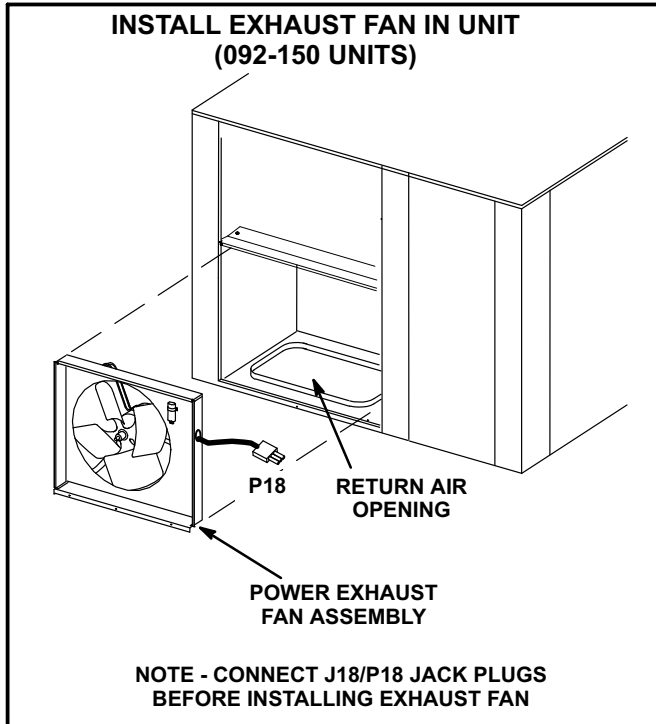
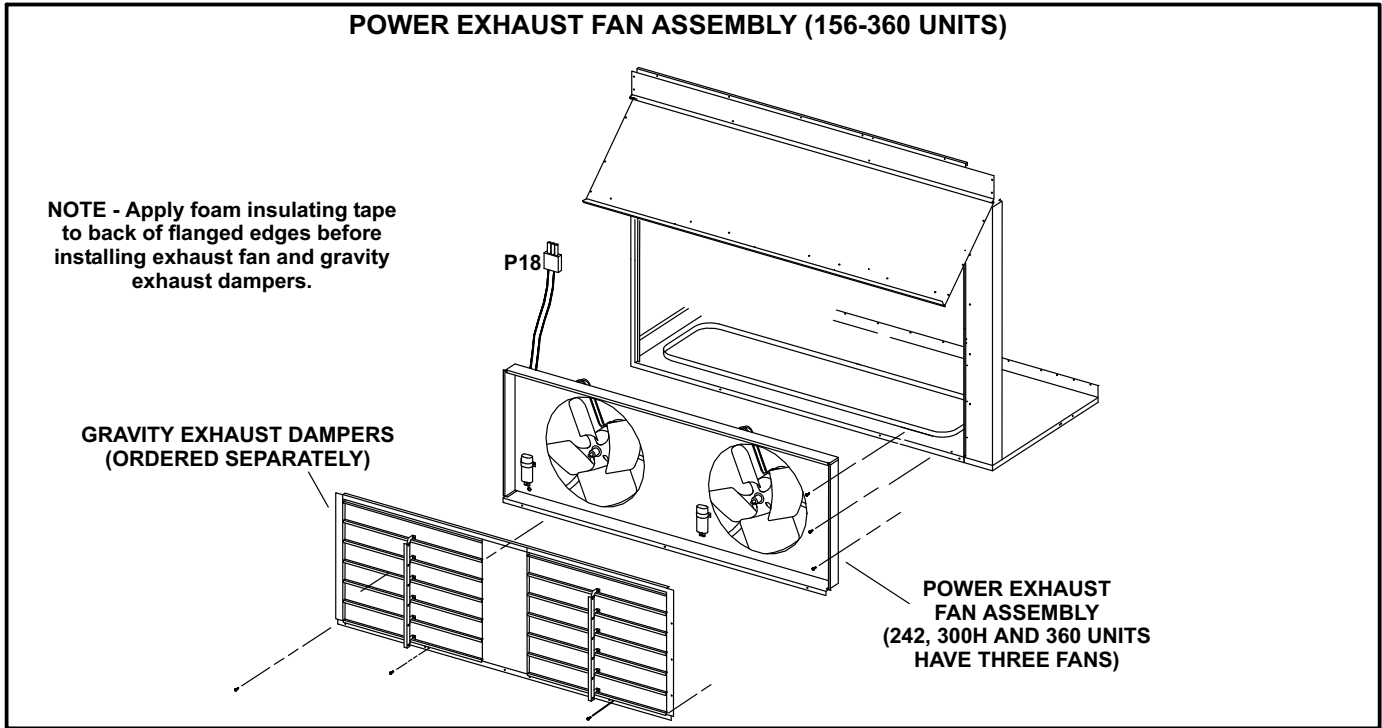

FIGURE 14
FIGURE 17
092/150 Units (refer to figure 14)
- 1- Lift the fan assembly into the opening and insert the top side first. Align the top of the assembly inside the flange on the division panel. Secure the bottom of the assembly to the unit with screws provided. See figure 14 for 092/150 units and figure 17 for 156/360 units.